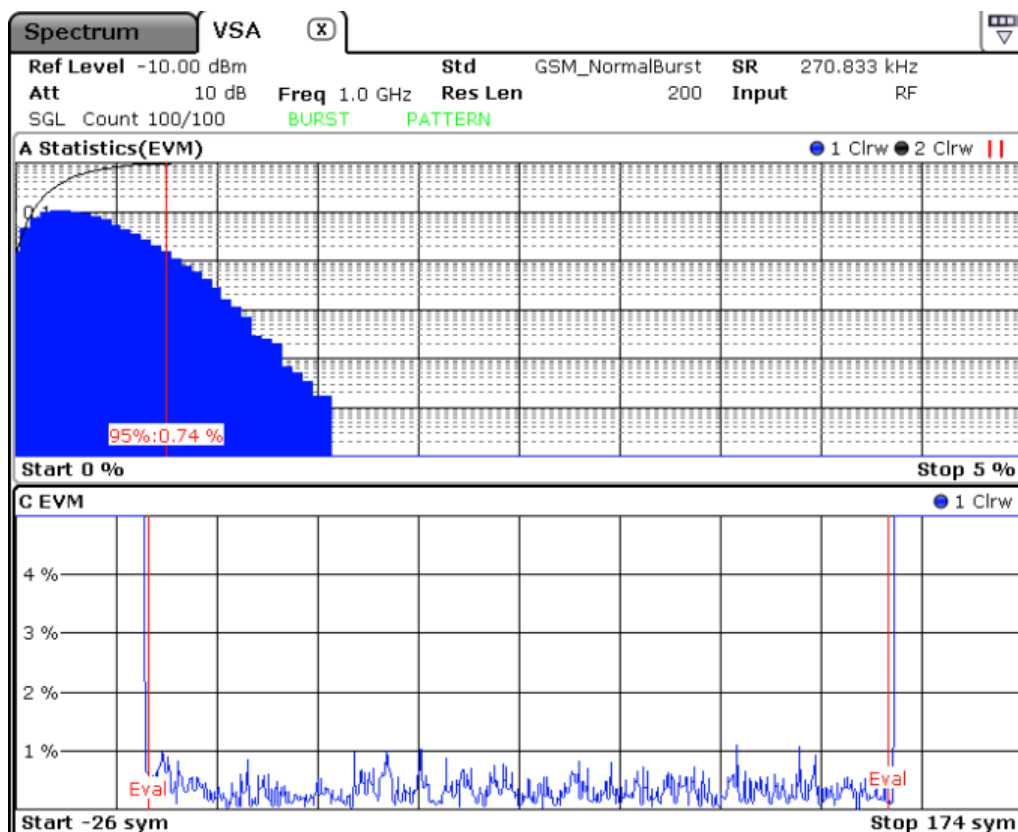

Fig. 5-21: Error vector magnitude (bottom), EVM distribution (top)
The figure 5-21 shows an example of a statistical evaluation. The lower window (C) shows the basic diagram (EVM), while the upper window (A) shows the associated distribution of the EVM.